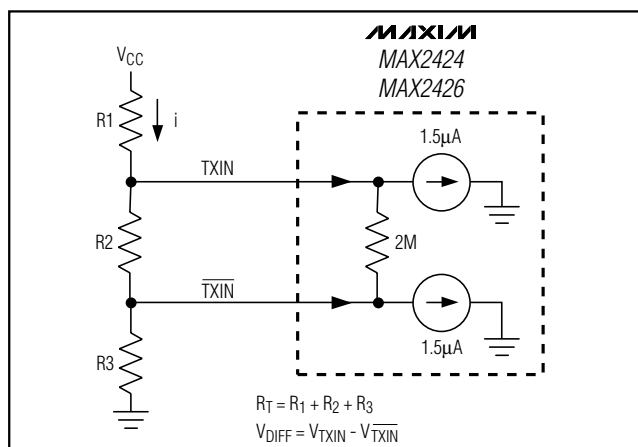

Figure 3. Biasing TXIN and TXIN for FM
Frequency modulation (FM) is realized by modulating the VCO tuning voltage. Apply the appropriate differential and common-mode voltages to TXIN and \overline{TXIN} to control transmitter output power (Figure 3).